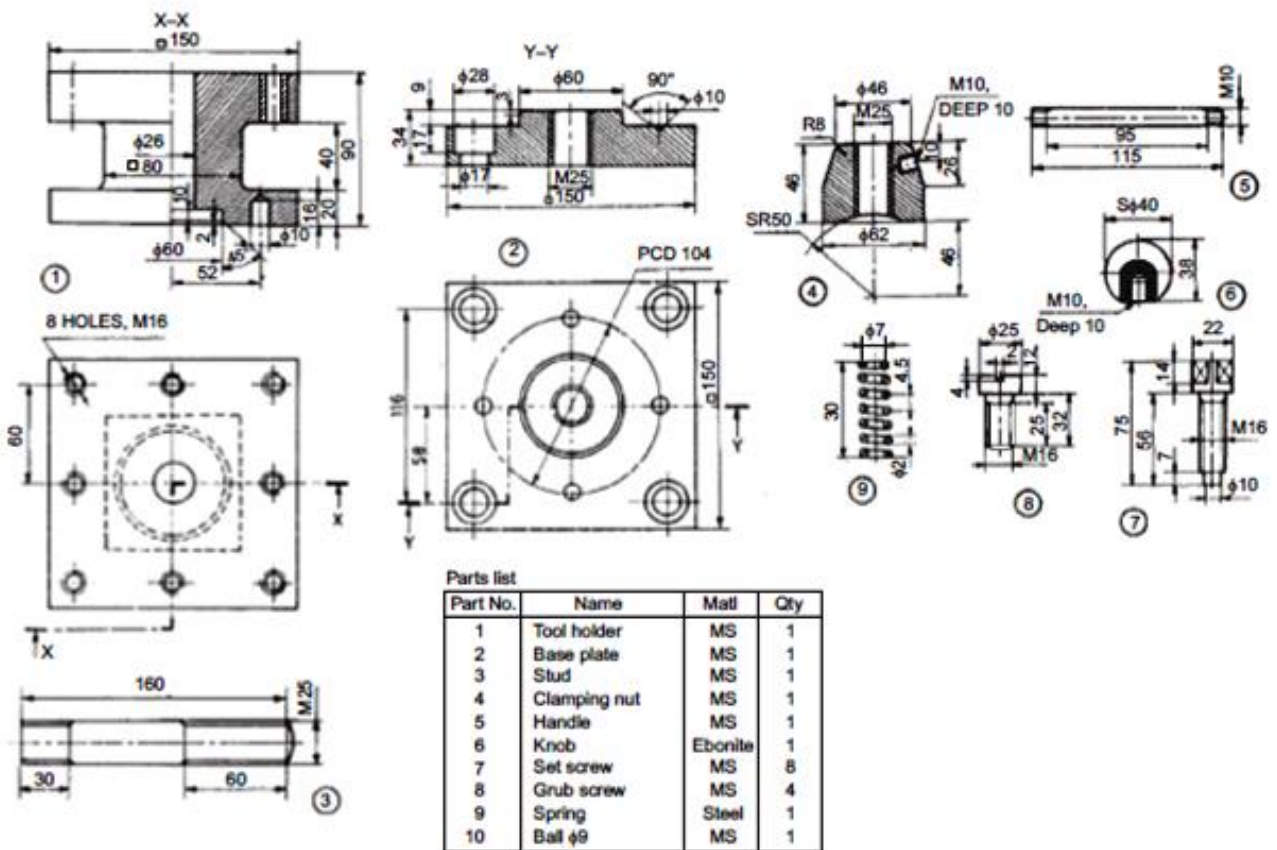

Fig.1
1. The details of a lathe square tool post are shown in Fig. 1. Assemble the parts and draw, (i) Sectional view from the front and (ii) view from above.